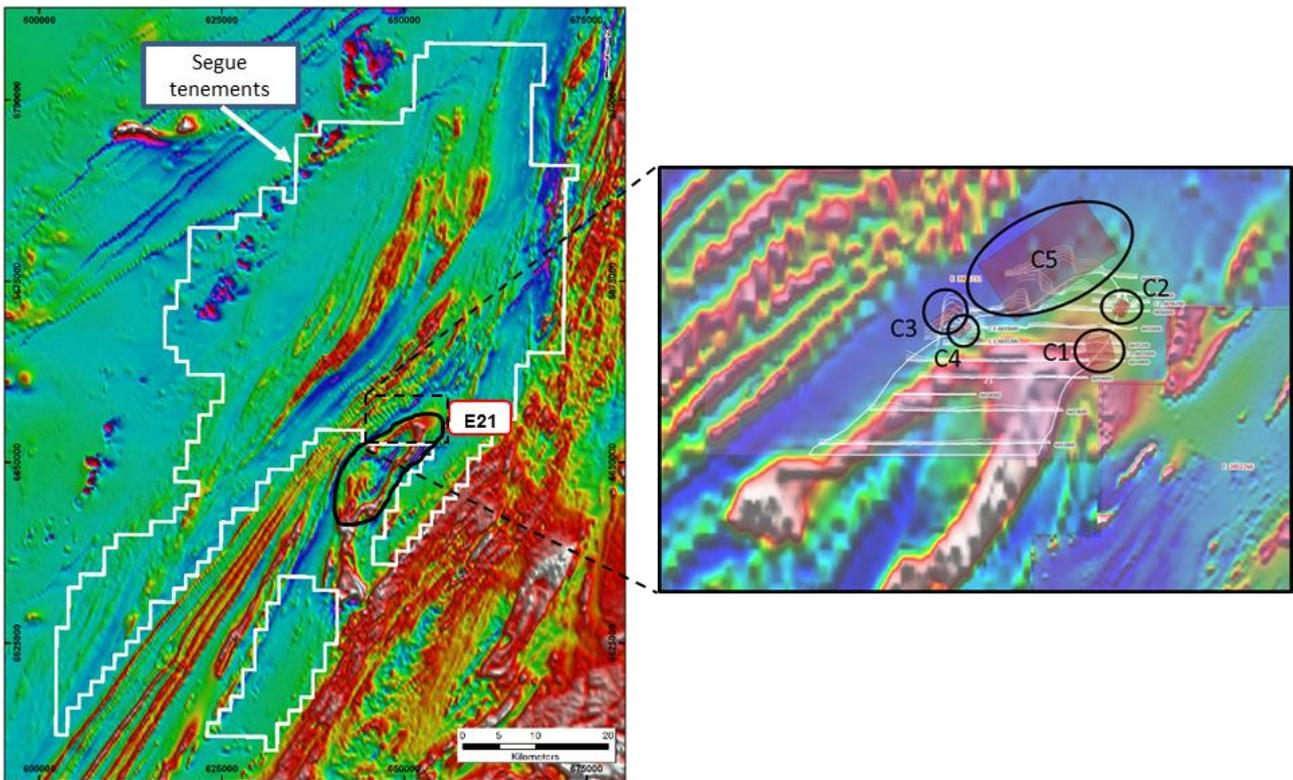

Figure 2 – E21 Target (left) and EM conductor targets (right)
Segue completed its maiden diamond and reverse circulation (RC) drilling programme at the E21 Target during the quarter. The E21 Target covers the northern portion of a large, ovoid magnetic feature that is interpreted to be an intrusion or series of intrusions in a major fold structure within E39/1731 (Figure 2). As previously reported (ASX announcement 14 August 2014), Moving Loop Electromagnetic (MLEM) and Fixed Loop Electromagnetic (FLEM) surveys were undertaken and successfully defined five bedrock conductors. The drill programme was designed to test the three highest priority conductors (C1, C2 and C4).